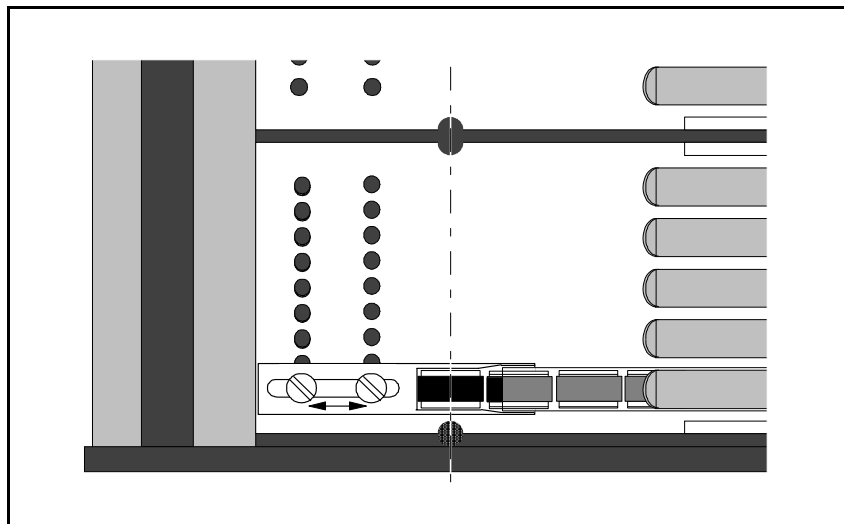

Figure 4-38. Vibratory magazine tube fork
3. Ensure that the component is located in correct pick position. The center of the pick position is marked with a notch in the tube fork and recesses in the bottom plate (Figure 4-38).